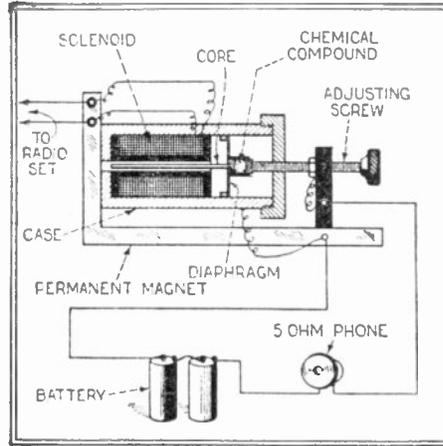

Fig. 277 One of the first successful types of microphone amplifiers is shown above. This is the cross section view.
A. 2. You will find in Fig. 277 a